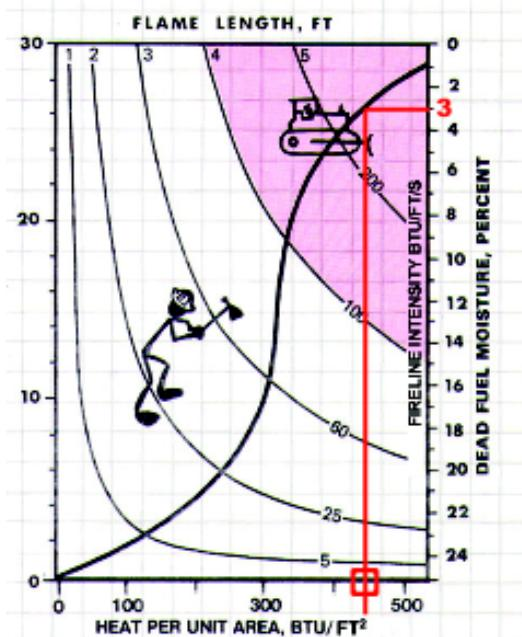

Figure 9.10—Nomogram—upper right quadrant.
- Starting in the upper right quadrant, draw a horizontal line from the dead fuel moisture percent value intersecting the S-shaped curve in the quadrant, see figure 9.10.